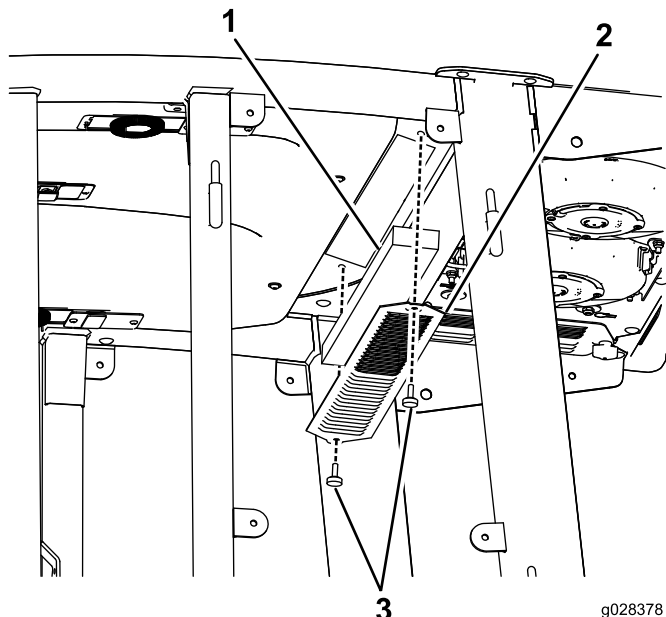

Figure 85
1. Remove the screws and grates from over both the in-cab and rear cab air filters (Figure 85).